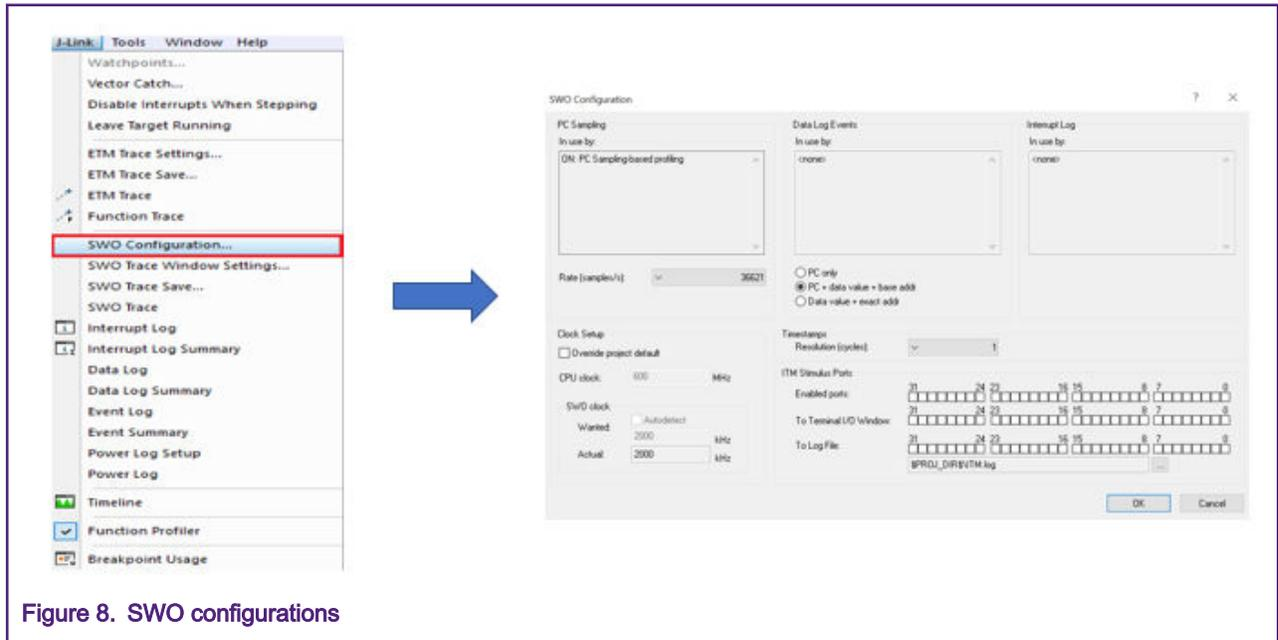

Figure 8. SWO configurations
1. Connect the J-Link to the target board, MIMXRT1060-EVK, and click the **J-Link** to configure the SWO, as shown in Figure 8.